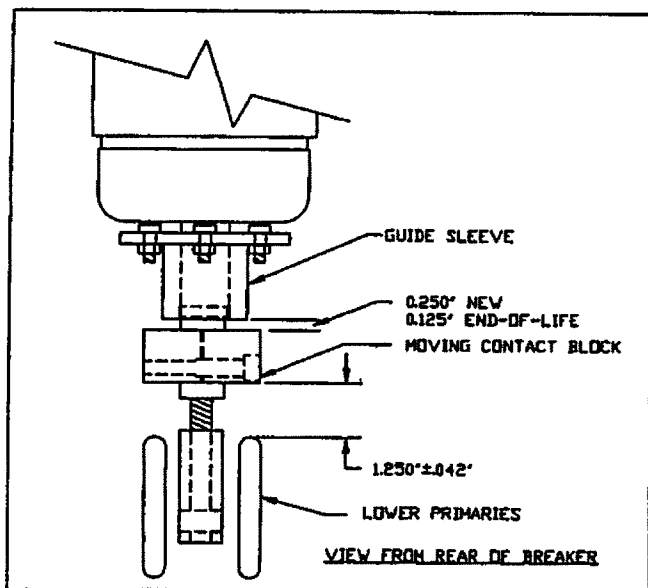

Figure 25. Contact Erosion Measurements
gap between the contact overtravel nuts and the contact spring yokes. See Figure 25.
At each inspection, the vacuum interrupters should be checked for contact erosion. The breaker must be closed for this check. Each new vacuum interrupter is set with a gap of 0.250 inch between the lower contact block and the guide sleeve. As the contacts erode with use, this gap will decrease. When the gap reaches 0.125 inch the interrupter should be replaced. See Figure 25.
- With closed contacts on a new vacuum interrupter, the bottom of the moving contact block should be 1.250 ± 0.042 " above the top of the lower main primary disconnect bars. See Figure 25.
- p. Set the height of the interrupter in the breaker by rotating the interrupter. Be careful to turn the interrupter by its ceramic body. Do not attempt to turn it by the lower contact block or the movable stem, as this might result in damage to the interrupter's bellows and loss of vacuum. Rotate the interrupter until the lower surface of the lower contact block is 1.250" above the upper edge of the lower primaries. See Figure 25. Then rotate the interrupter as necessary to position the long edges of the block parallel to the lower primaries and the slot in the lower contact block at the rear of the breaker. Recheck the dimension between the lower surface of the contact block and the upper surface of the lower primaries. This dimension should be 1.250"±0.042".
- s. Set the height of the operating yoke so that the bottom of the pin is 1.500 ± 0.015 " above the bottom edge of the lower primaries. See Figure 25.
(2) Sliding Contact Finger Assembly